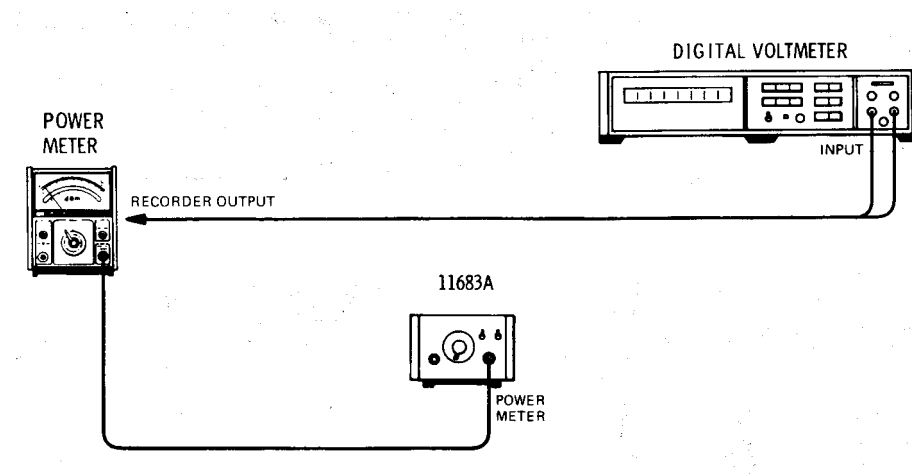

Figure 3-2 Operating and hookup
Figure 3-2 provides operating and hookup instructions with a compatible Power Meter.
- 3 Connect the equipment together as shown in Figure 3-2.